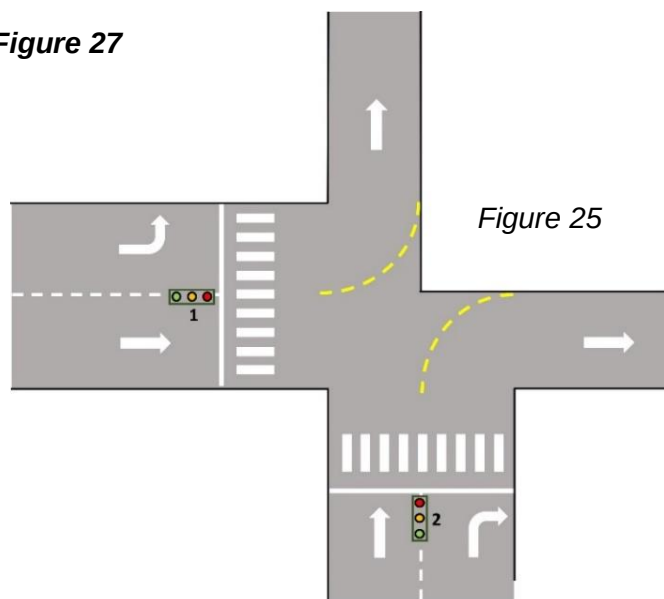

Figure 25
- “Draft Layout_2 lights” **Figure 25**